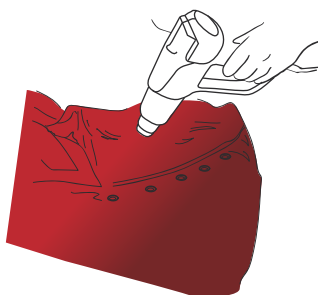

Figure 19
- › Then heat each rivet again to 80 °C - 90 °C (176 °F - 194 °F). (FIG. 19)